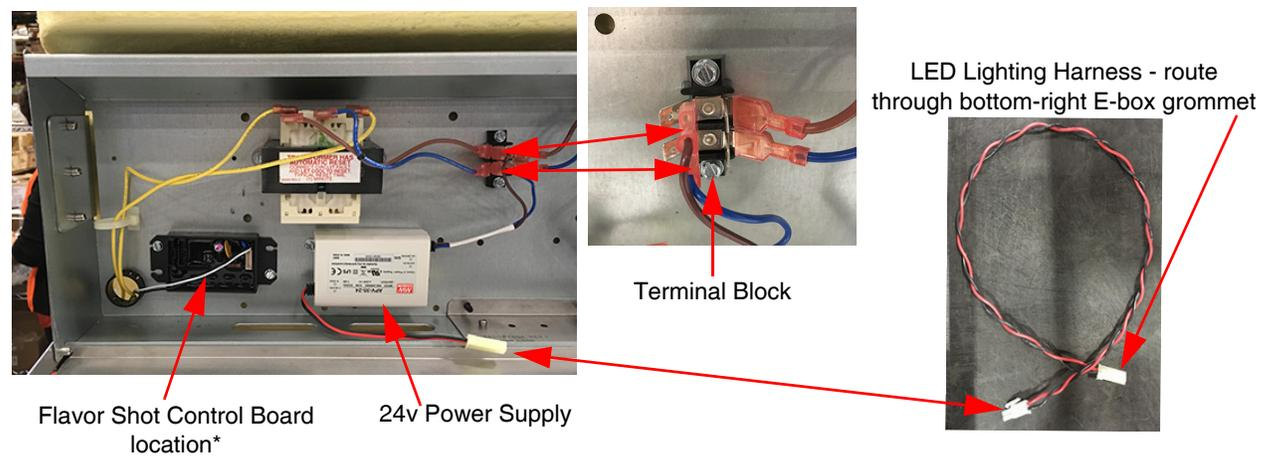
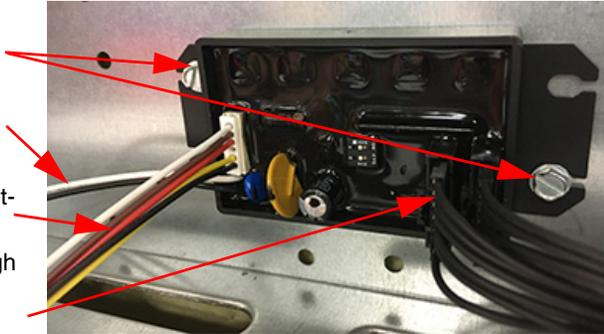

FIGURE 3
FIGURE 4
2. Connect the power leads (brown & blue wires) from the 24v power supply to terminal block tabs (top left tabs) as shown in FIGURE 3.
* Note: See "FIGURE 4" on page 10 for proper mounting of the Flavor Shot Control Board.
See FIGURE 4.
2. Route the power connector wire from the Flavor Shot Control Board (black & white wires) through the grommet on the bottom-left side of the E-box. See "FIGURE 3" on page 9 and FIGURE 4 above.
4. Connect the solenoid harness to the Flavor Shot Control Board as shown in FIGURE 4.
5. Connect each of two (2) the Keypad harnesses (Jumper harnesses) to the Flavor Shot Control Board as shown in FIGURE 4.
In FIGURE 4, the keypad port on the left of the Flavor Shot Flavor Shot Control Board is the connection for the Merchandiser keypad while the port on the right is for the ADA keypad.